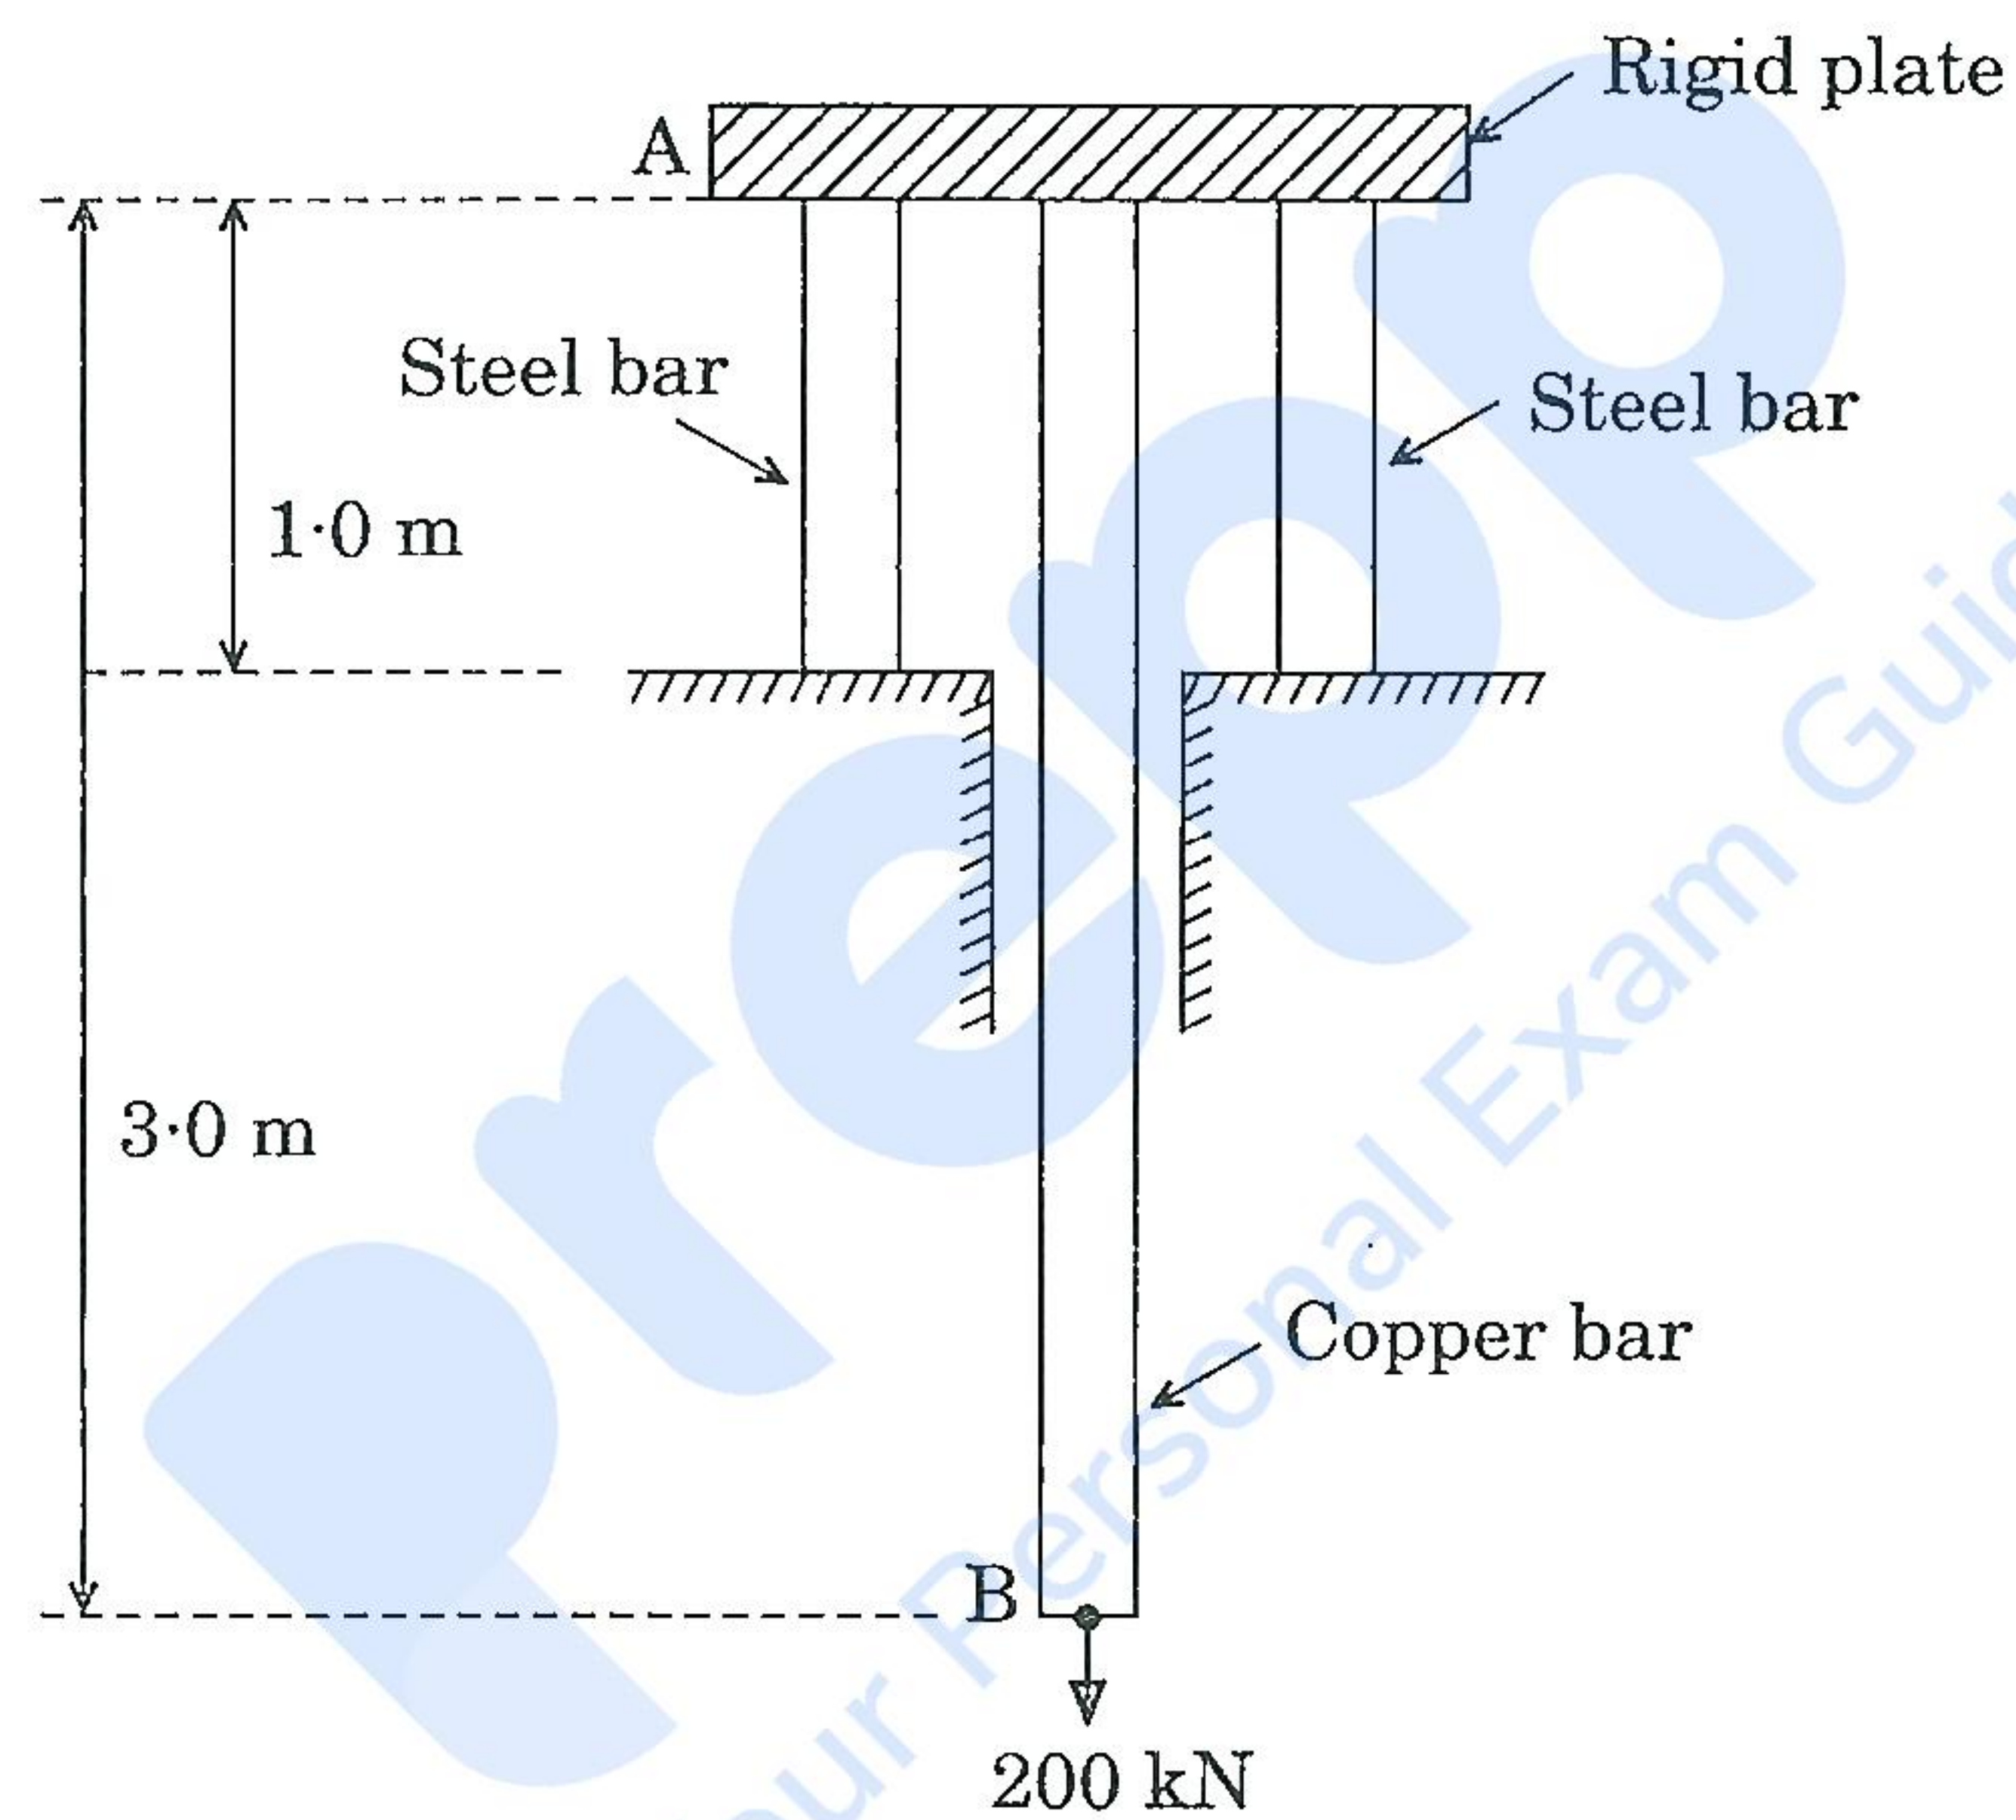

Figure 8(c)
A simply supported beam of homogeneous cross-section and material is subjected to axial and transverse loads as shown in Figure 8(a)(ii). Calculate the total stresses at points ① and ② of the section C as shown in the figure.
A circular copper bar is carrying a tensile load of 200 kN as shown in Figure 8(c). Calculate the displacement of point B of the copper bar.